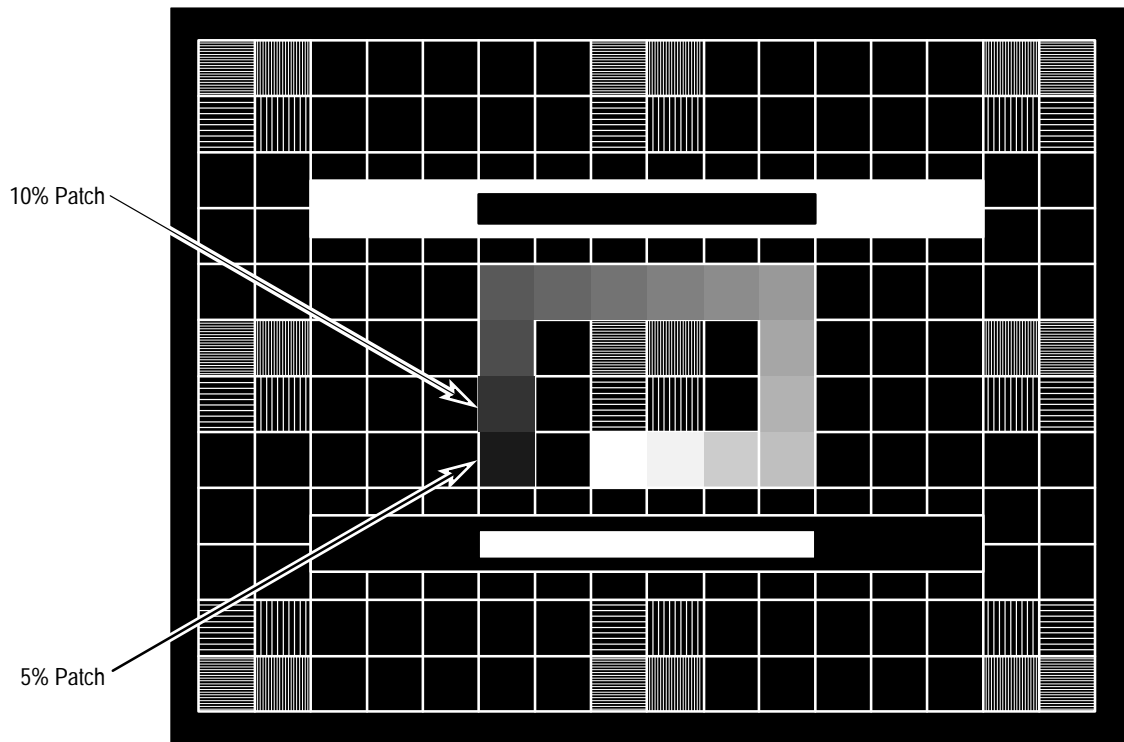

Figure 5–11: Five and Ten Percent Luminance Patches
- Adjust R403 (BRIGHTNESS) until the background raster lines in the 5% luminance patch (see Figure 5–11) just disappear, while the lines in the 10% luminance patch are just visible, when both are viewed through the magnifier.